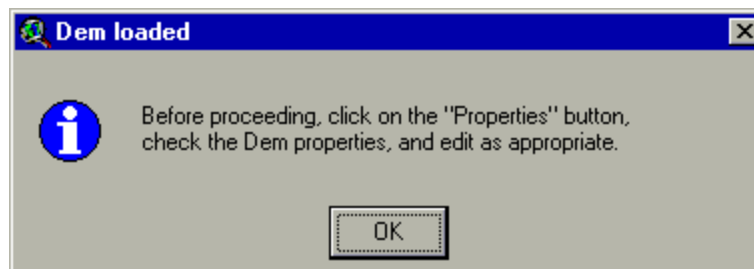

Figure 5.6
4. Once the DEM is loaded, the grid data set path will be shown in the text box labeled "DEM Grid". A prompt box will be displayed reminding the user to verify DEM properties (Figure 5.6)